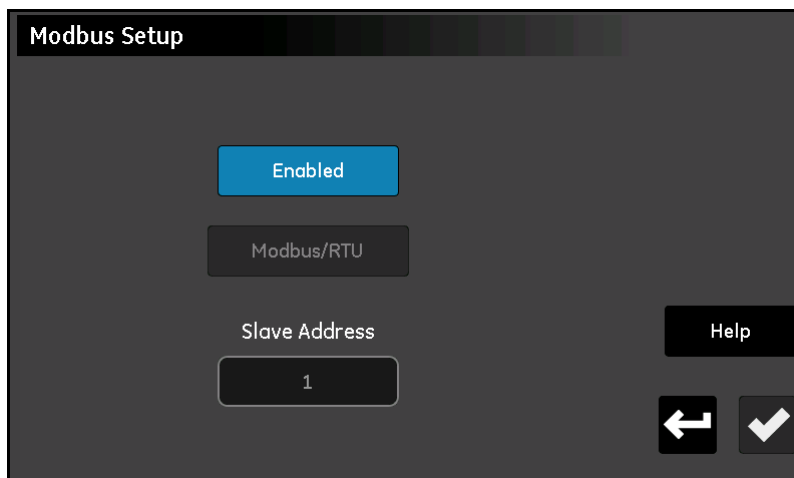

Figure 68: Modbus Setup Screen
1. From the *Configuration Menu* screen (see *Figure 52 on page 55*), tap the **Modbus** button to open a *Modbus Setup* screen similar to *Figure 68* below.